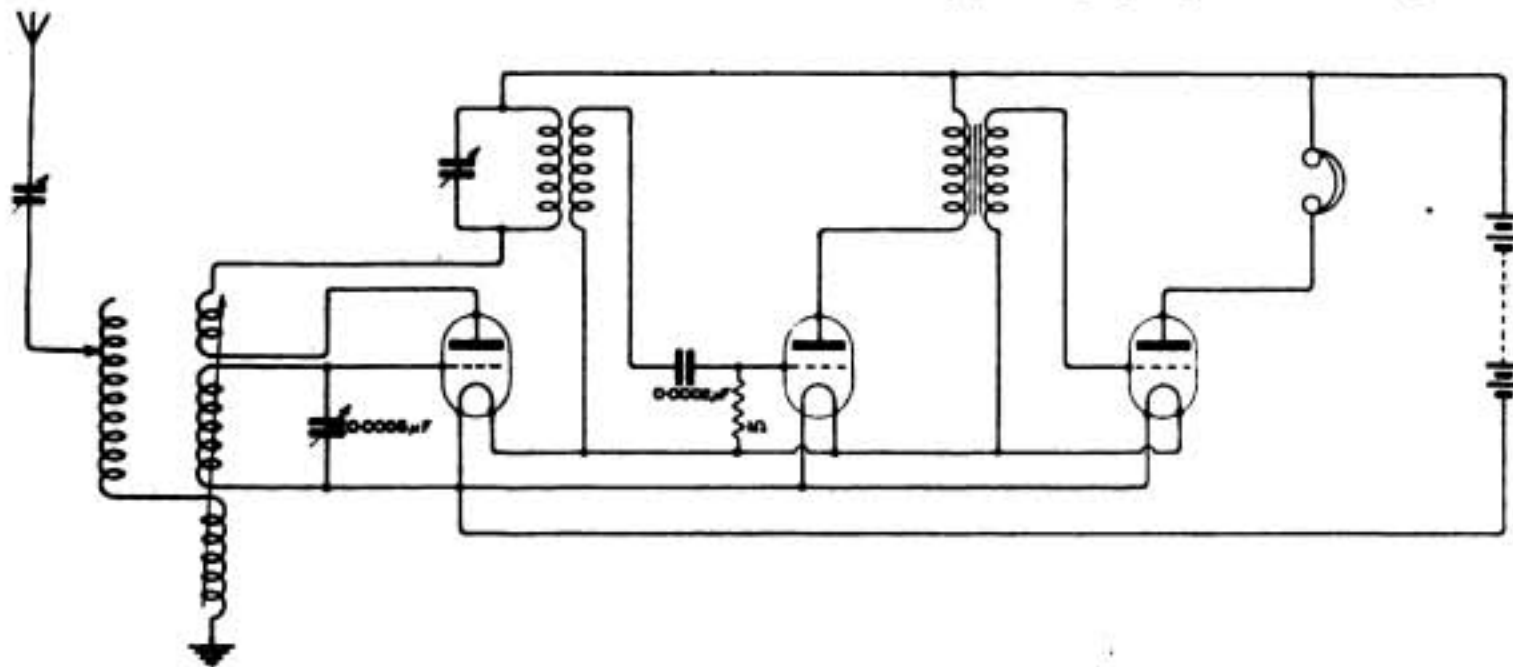

Fig. 1.
(1) See diagram, Fig 1. (2) Maximum wavelength approximately 3,000 metres.